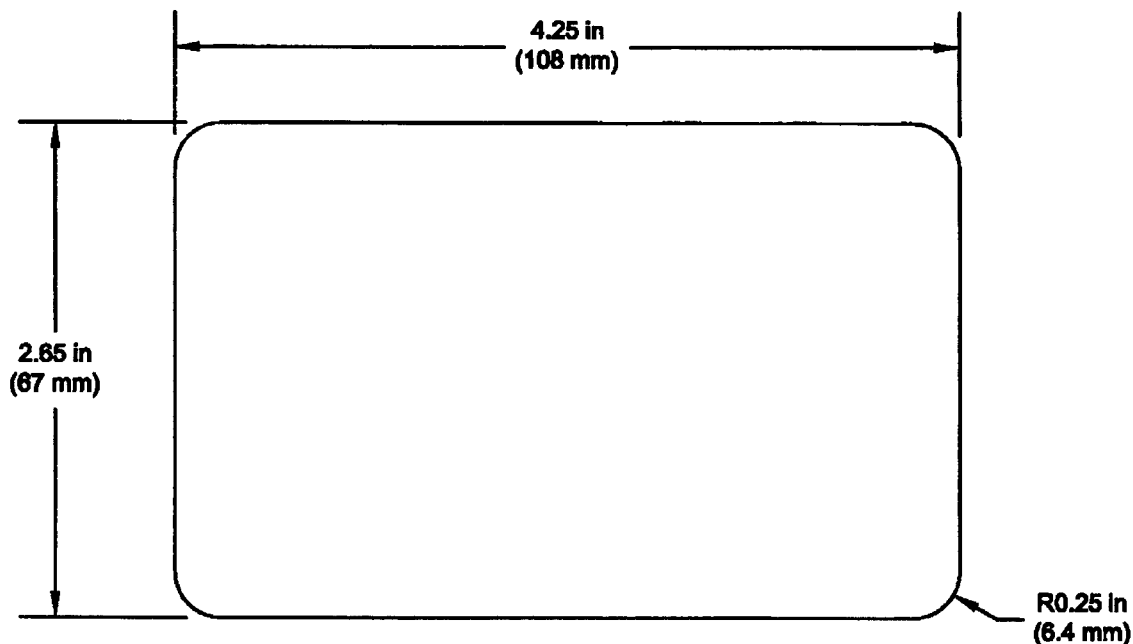

Figure 1: Fwd Crosstube Shim Dimensions (D5305-1 Shim)
- 2.2 If not using the DSI9730-011 Shim Kit, fabricate two rectangular shims as per Figure 1 using 16 gauge (0.051in thk) aluminum. Break all sharp edges 0.010in to 0.025in max (0.25mm - 0.64mm). Treat with chemical film material (Alodine 1200 or 1201) per MIL-C-5541.